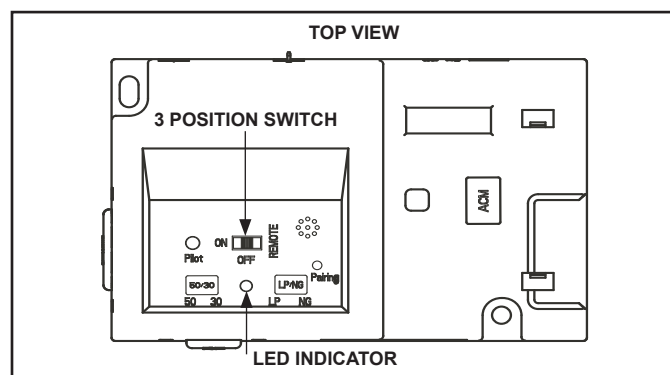

Figure 12. IFT-ECM
1. The Electronic Control Module (IFT-ECM) has a three-position ON/OFF/REMOTE selector switch that must be set for proper operation. See Figure 12. When changing switch positions, it is important to pause in each position for 1-2 seconds.